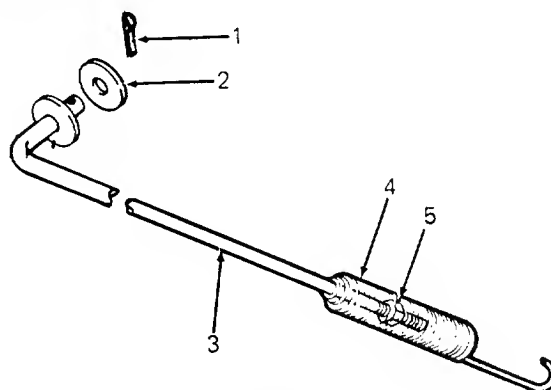

Figure 18
3. Refer to Figure 18 and tighten the hex nut on the end of the brake rod, under the spring as follows: remove the hairpin cotter and flat washer from the other end of the brake rod to disconnect it, and tighten the hex nut.
To decrease brake force, refer to Figure 18 and proceed as follows: